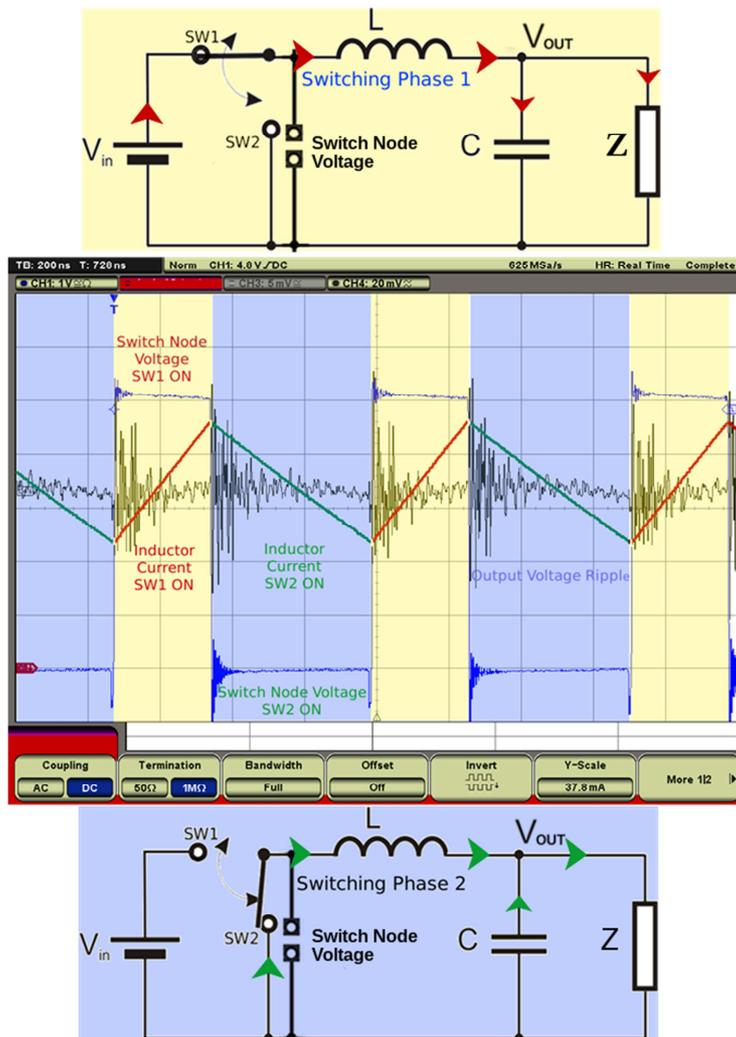

Figure 1: Block diagram and operating principle of a DC/DC Buck converter
Figure 1 introduces the basic operation of a buck converter. In the simplest control mechanisms, the duty cycle of the switching phases is controlled by voltage feedback. In a buck converter, operating in Continuous Current Mode (“CCM”), the case where there is always current flowing in the inductor at the switching points, the duty cycle ($\frac{t_{on}}{t_{off}}$) of the switch connected to V_{in} controls the output voltage, and the output voltage (V_{out}), is (ideally) equal to:
Figure 1 the oscilloscope waveforms illustrate the expected behavior of the switch node voltage (referred to GND), inductor current, and output voltage ripple, during normal operation; the two switching phases of the DC/DC operation are indicated by the color of the diagram for each of the phases.
(1) Input voltage - V_{in}
(2) Switch node – Referred to GND, or referred to V_{in}
- Figure 1) is preferentially measured with a differential probe, while the voltage referred to Ground during the low-side switching phase (with SW2 ON, SW1 OFF, in
(3) Output voltage - V_{out}